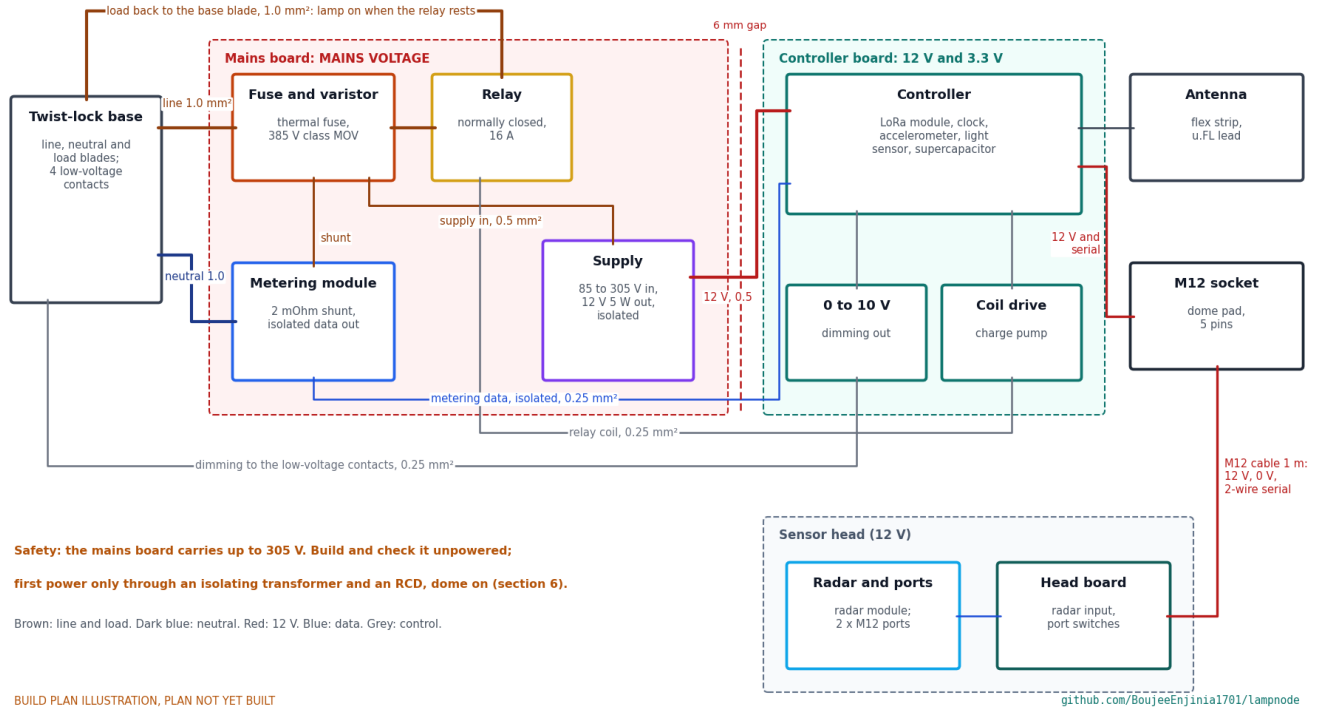

Figure 8. Block-level wiring with wire sizes. No circuit board is laid out at this stage; bought modules on prototype board stand in for it.
7. Wire the board as Figure 8 shows (section 3.2.1).